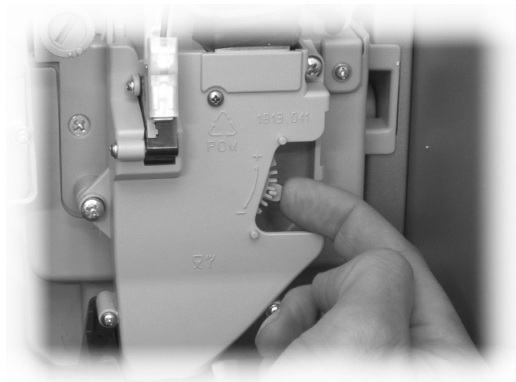

Fig. 55
- move the adjusting lever into the rack and select the slot corresponding to the dose required (Fig. 55).